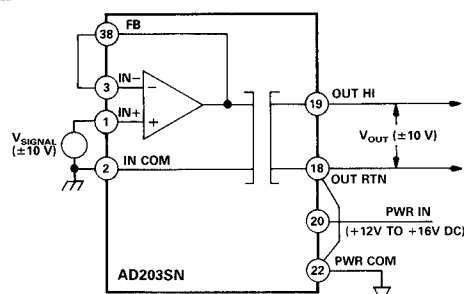

Figure 16. Basic Unity Gain Configuration
**Unity Gain Input Configuration.** The basic unity gain configuration for input signals of up to  $\pm 10$  V is shown in Figure 16.